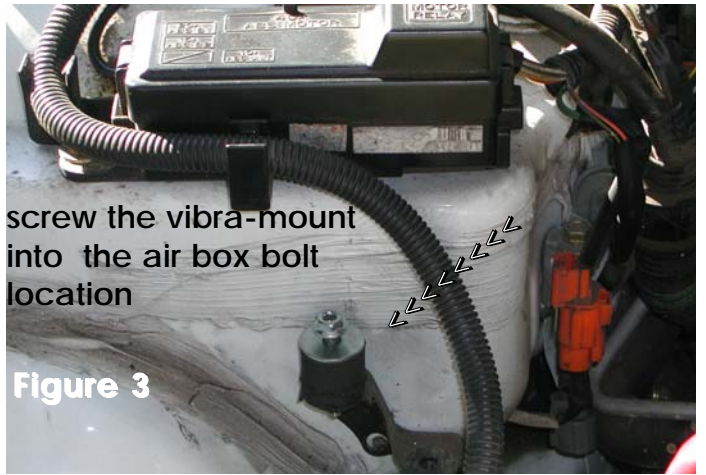

Figure 3
- 4 Screw the vibra-mount into the fender wall as seen in figure 3 and use the m6 nut and washer.